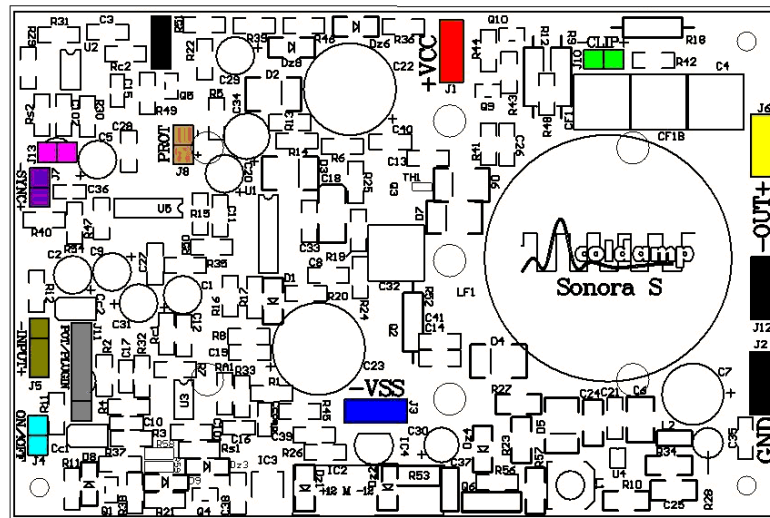

Fig 1: Connections of Sonora S250 module
- +VCC (RED in figure 1), J1: positive +50V nominal
- GND (BLACK in figure 1), J2: ground
- VSS (BLUE in figure 1), J3: negative -50V nominal
According to figure 1, the speaker must be connected in the fastons:
According to figure 1, the input connector is J5, drawn in **BROWN**. Pin 1 is the top one.
According to figure 1, the input connector is J11, drawn **GREY**. Pin 1 is the bottom one.
According to figure 1, the input connector is J4, drawn in **LIGHT BLUE**. Pin 1 is the top one.
Jumper J13 (drawn **PINK**), shown in figure 1, enables the internal oscillator. **Leave this jumper placed when a module performs as the (one and only) master or when each module runs independently**, i.e., no synchronization is required.
Header J7 is the SYNC in/out. When a module is master, as determined by the presence of J13, this header acts as an output. A shielded cable, as short as possible, must be used to connect to another slave module(s). Pin 1 is the bottom one in fig.1
The PROTECT signal is available in header J8, drawn **BROWN** in figure 1. Pin 1 is the top one.
The CLIP signal is available in header J10, drawn **GREEN** in figure 1. Pin 1 is the left one.